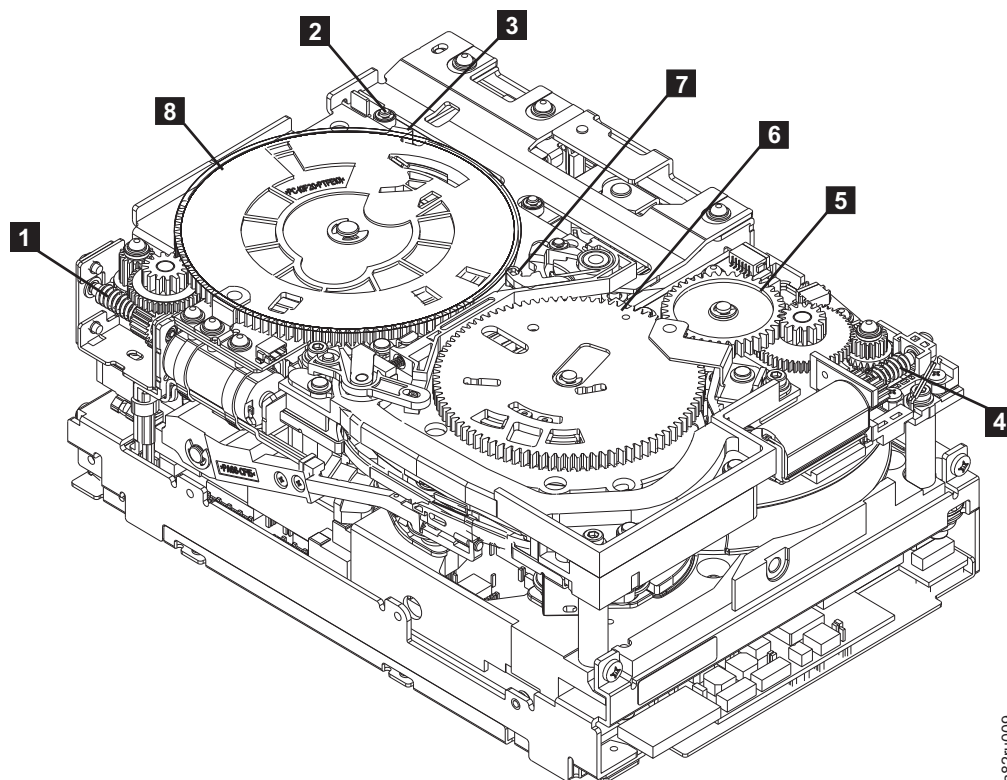
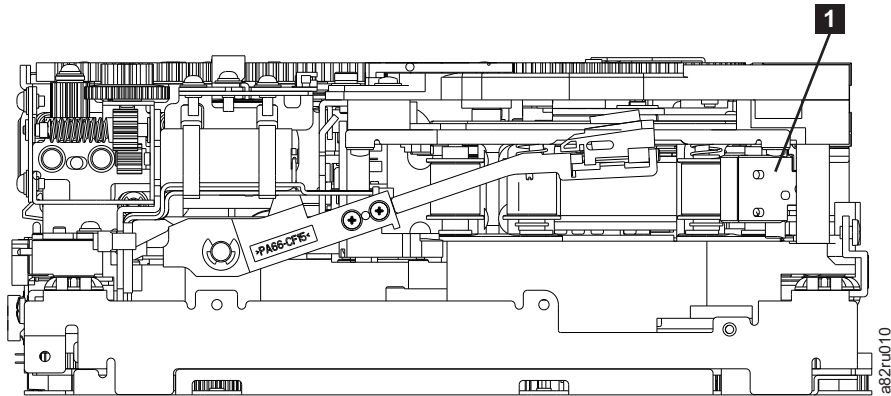

Figure A-20. Drive with cover removed to reveal gear train.
Figure A-21. Leader Block Assembly (LBA)
5. Locate the threader motor worm gear (**4** in Figure A-20 on page A-21) on the rear of the drive. Use your finger to rotate the threader motor worm gear and slowly rotate the threader mechanism gear (**6** in Figure A-20 on page A-21) clockwise. This rotates the threader motor worm gear (**4** in Figure A-20 on page A-21) clockwise, drawing the LBA into the cartridge.
6. As the tape leader block assembly (LBA) is secured in the cartridge, you should hear the LBA retention spring clips click into place. If you do not hear the click, continue rolling until the threader motor worm gear (**4** in Figure A-20) stops. The LBA is in the correct position.
- a. Loader mechanism gear (**6** in Figure A-20) nearest the front of the drive that actuates the cartridge loader mechanism.
- b. Position of the rotate stub (**3** in Figure A-20).
- c. Front loader motor worm gear (**1** in Figure A-20). Rotating this gear allows the loader mechanism gear (**8** in Figure A-20) to turn.
8. Rotate the loader motor worm gear (**1** in Figure A-20) to turn the loader mechanism gear (**6** in Figure A-20) counterclockwise. Continue turning until the rotator stub (**3** in Figure A-20) loses contact with the lever (**7** in Figure A-20). This releases the LBA leader pin.
9. Rotate the threader motor worm gear (**4** in Figure A-20 on page A-21) to turn the threader mechanism gear (**6** in Figure A-20 on page A-21) counterclockwise. This moves the LBA out of the cartridge and past the read/write head. Stop this rotation when the LBA is near the tape guide roller nearest the rear of the drive shown as **1** Figure A-21.
10. Continue rotating the loader motor worm gear (**1** in Figure A-20 on page A-21) until the rotator stub (**3** in Figure A-20 on page A-21) is positioned as shown. Notice that the rotator stub (**3** in Figure A-20 on page A-21) is nearly aligned with the cartridge loader tray guide bearing (**2** in Figure A-20 on page A-21).